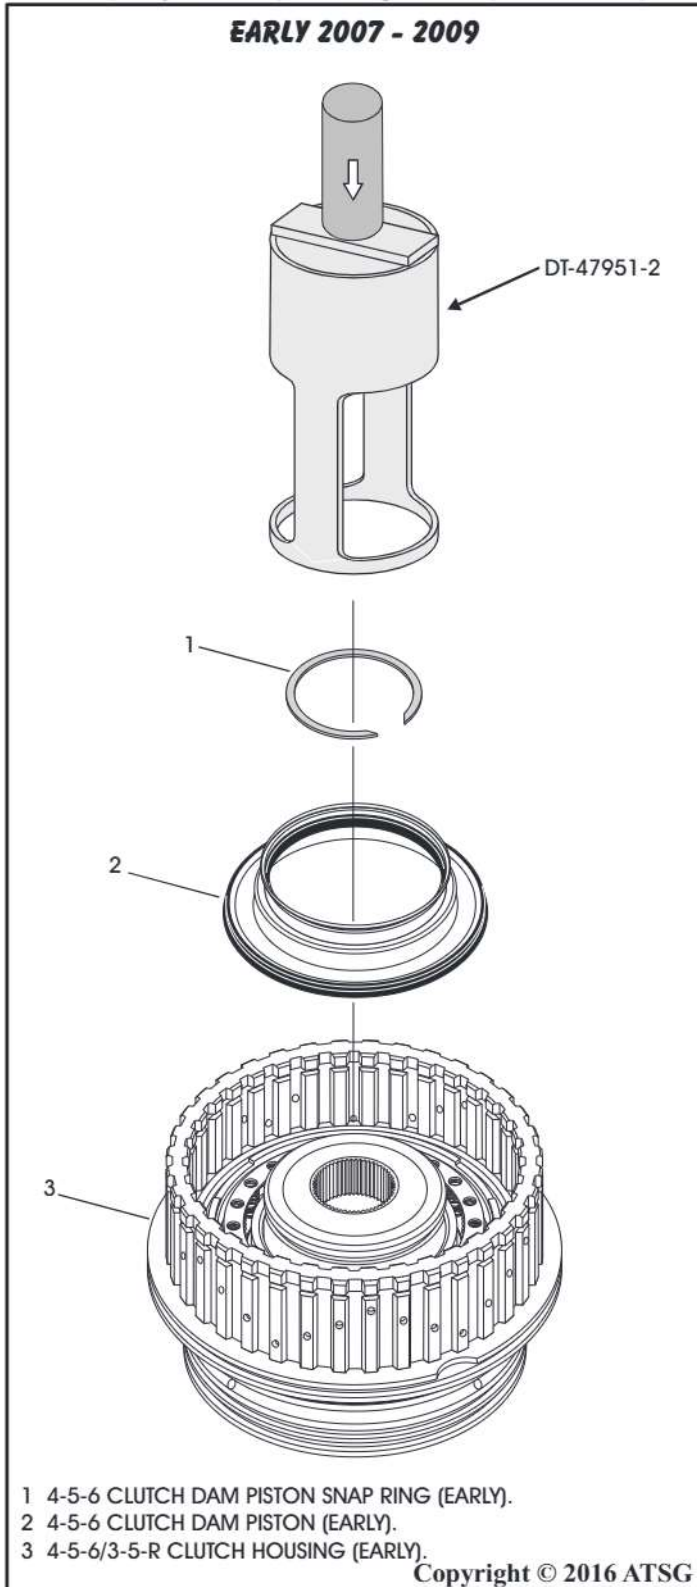
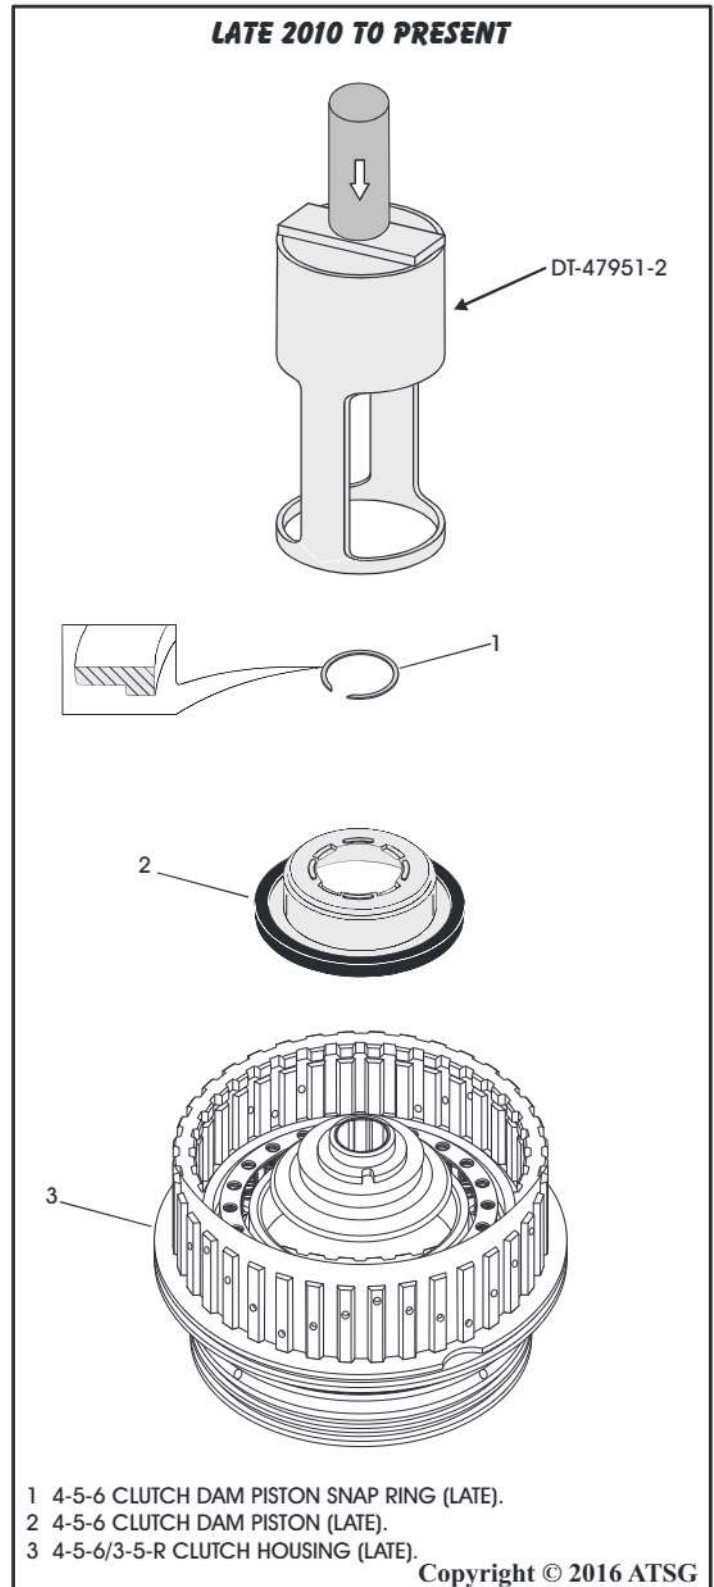

Figure 98
Figure 99
34. Utilizing the DT-47951-2 spring compressor or a similar aftermarket tool, remove the 4-5-6 clutch dam piston retaining snap ring as seen in Figure 98 (early models) and Figure 99 (late models).
35. Utilizing the DT-47951-2 spring compressor or a similar aftermarket tool, remove the 4-5-6 clutch dam piston as seen in Figure 98 (early models) and Figure 99 (late models).